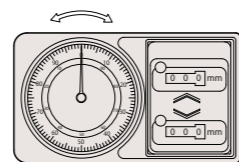

Fig. 1
5. Bring the measuring face of the scriber into contact with the surface plate and set the dial pointer and counters at zero to perform the zero point setting. (Fig. 1)